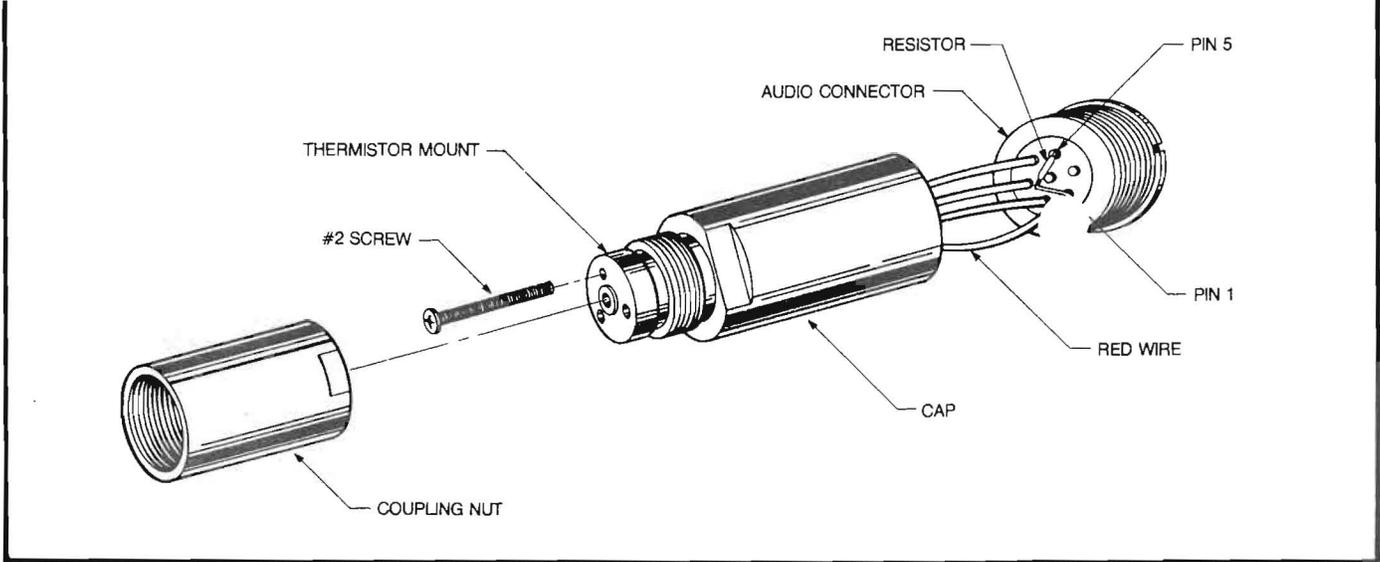

Figure 4. Resistor Replacement for Detectors Used With the Model 1045 Unit
Figure 4 Model 1038-N10 and NS20 System Coaxial Detector Accuracy from 30MHz to 26.5GHz. (An additional 0.2dB is added to the deviation reading for operation from 1 to 30MHz)
5. Using Figure 4 on page 4 of this sheet as a guide, unscrew the coupling nut from the cap. Remove the #2 screw from the thermistor mount so that it is free to revolve in the cap.